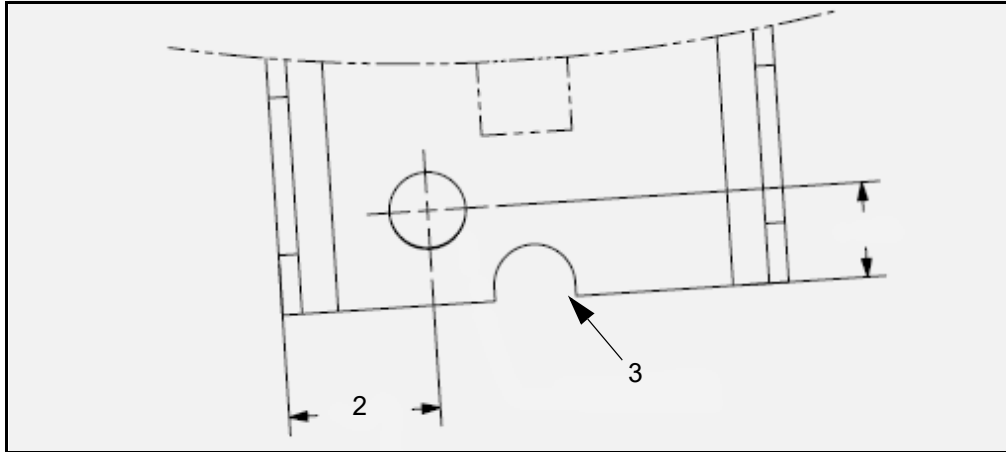

Figure 6. Drill hole measurements on cut air tank lower bracket.
14. Using a measuring tape and marker, mark the intersecting lines on the inboard section of the cut air tank lower bracket, as shown in Figures 6 and 7.
15. Using a 0.530 drill bit and drill bit guard, drill a hole at the intersecting lines (refer to Figure 6 and 7).
Item	Figure 6 Description
3	Existing air tank lower bracket mounting hole, post retrofit cut (refer to Figures 6 and 7)